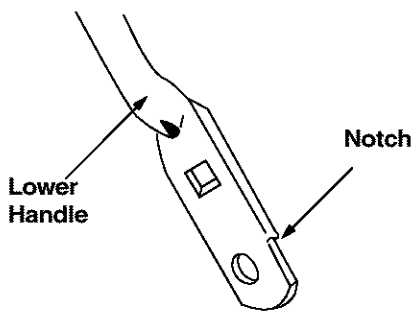

Figure 14
- Turn the lower handle around so the notch on the bottom of the lower handle is facing forward as shown in Figure 14. Reassemble, placing the bottom holes in the handle over the weld pins in the handle mounting bracket.